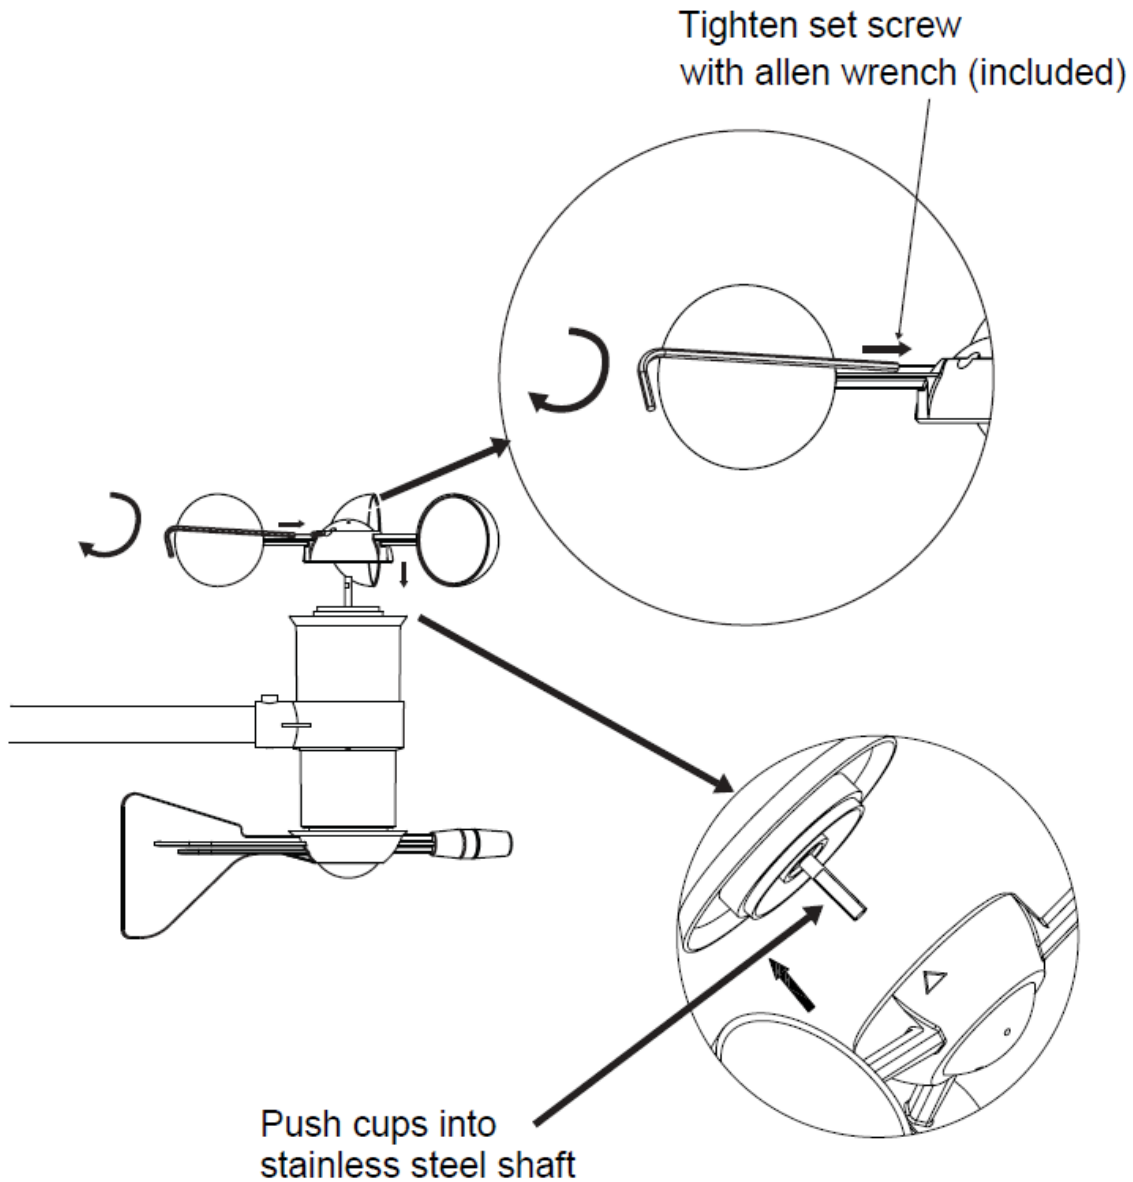

Figure 6
2. **Attach the wind cups to the anemometer assembly** (if necessary, some weather stations come pre-assembled).. Push the wind cups into the anemometer shaft, as shown in Figure 6.
Tighten the set screw with the Allen Wrench (included), as shown in Figure 6. Make sure the wind cups spin freely.